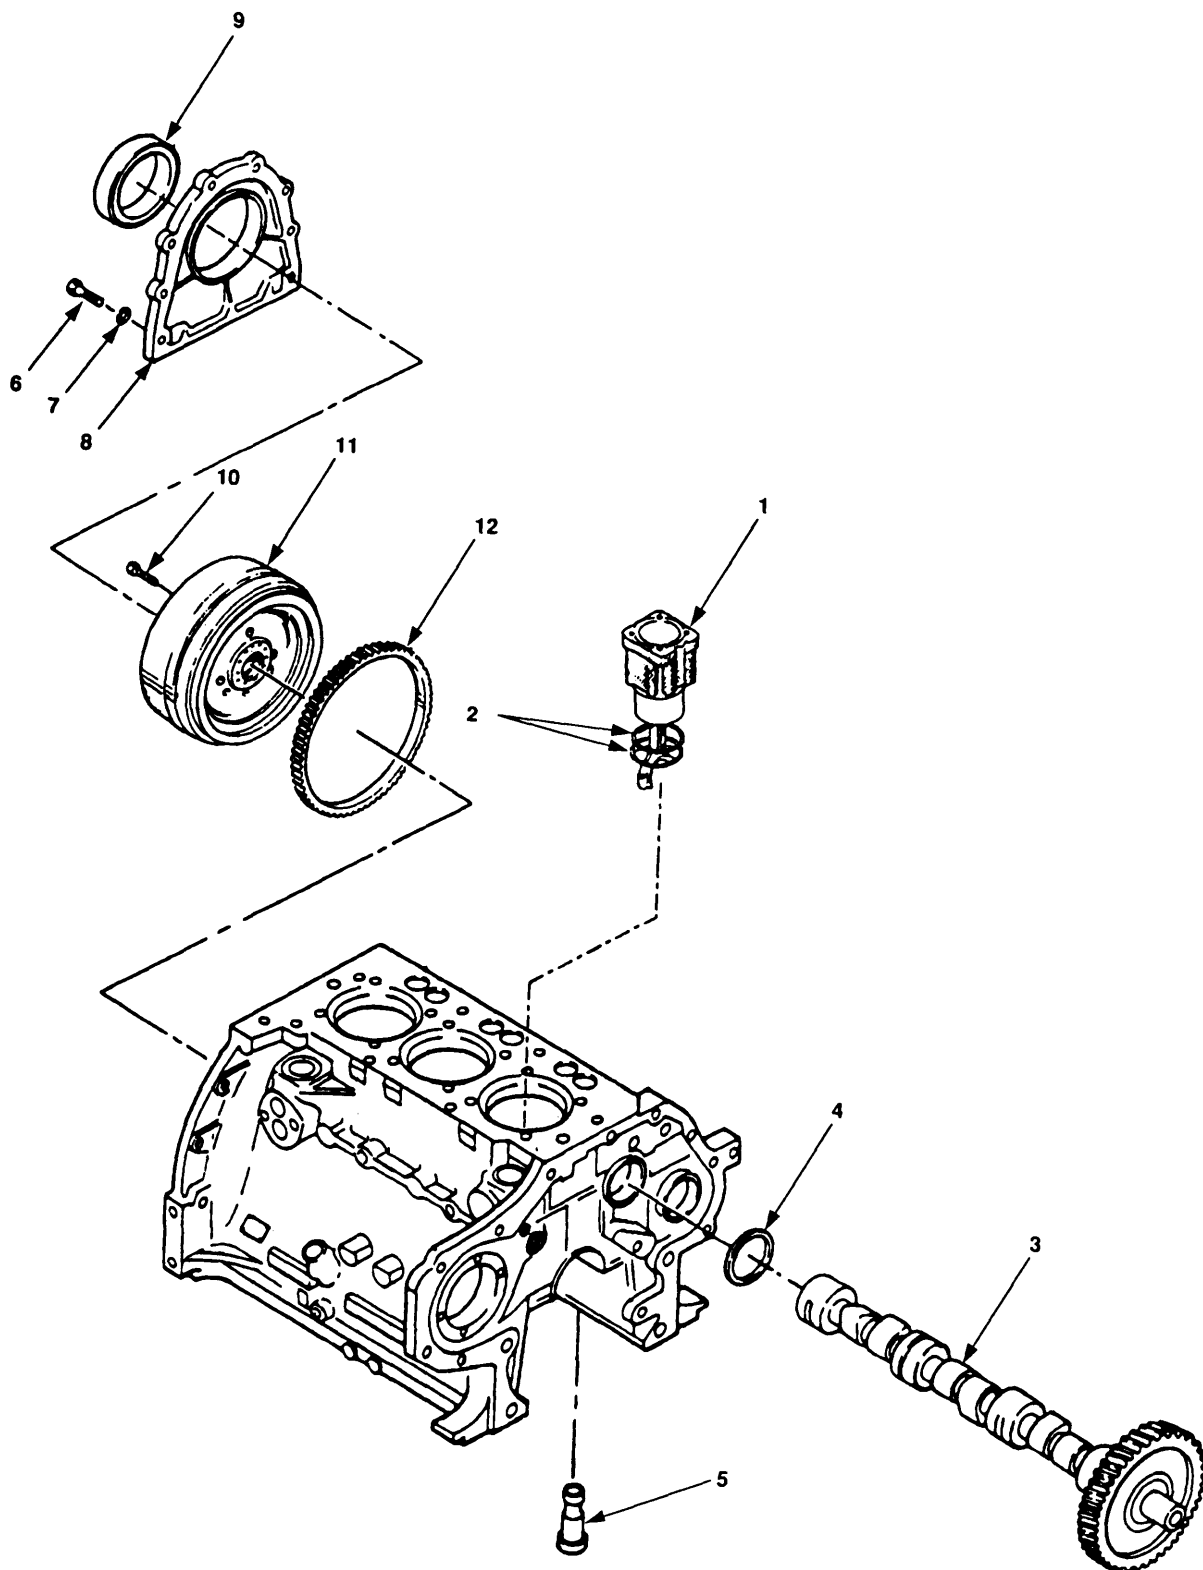

Figure 6-9. Cylinders Camshaft and Flywheel Removal.
- m. Remove cylinders (figure 6-9, 1) and shims (2).
- n. carefully remove camshaft (3), washer (4) and. valve tappets (5).
- (1) Remove eight bolts (6), washers (7), and rear end cover (8).
- (3) Press seal (9) out of rear end cover (8).
- e. Install bearing caps (7) and (6), with their identification number corresponding to and in same direction as that stamped on crankcase. Install washers (5) and bolts (4). Torque in accordance with appendix G.
- f. Install pistons (3).
- g. Install connecting rod caps (2) and connecting rod bolts (1). Torque in accordance to appendix G.
- (1) If ring gear (figure 6-9, 12) has been removed, heat new ring gear to a temperature of 248° F (120°C) and position it on flywheel (11) and tap it into position so it seats against shoulder.
- (2) Install flywheel (11) with bolts (10). Torque in accordance with appendix G.